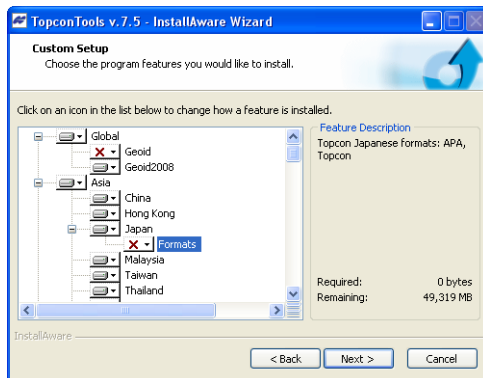

Figure 1-9. Custom Setup Window
4. Highlight the desired features (projection or projection and geoid) in the *Custom Setup* window (Figure 1-9)